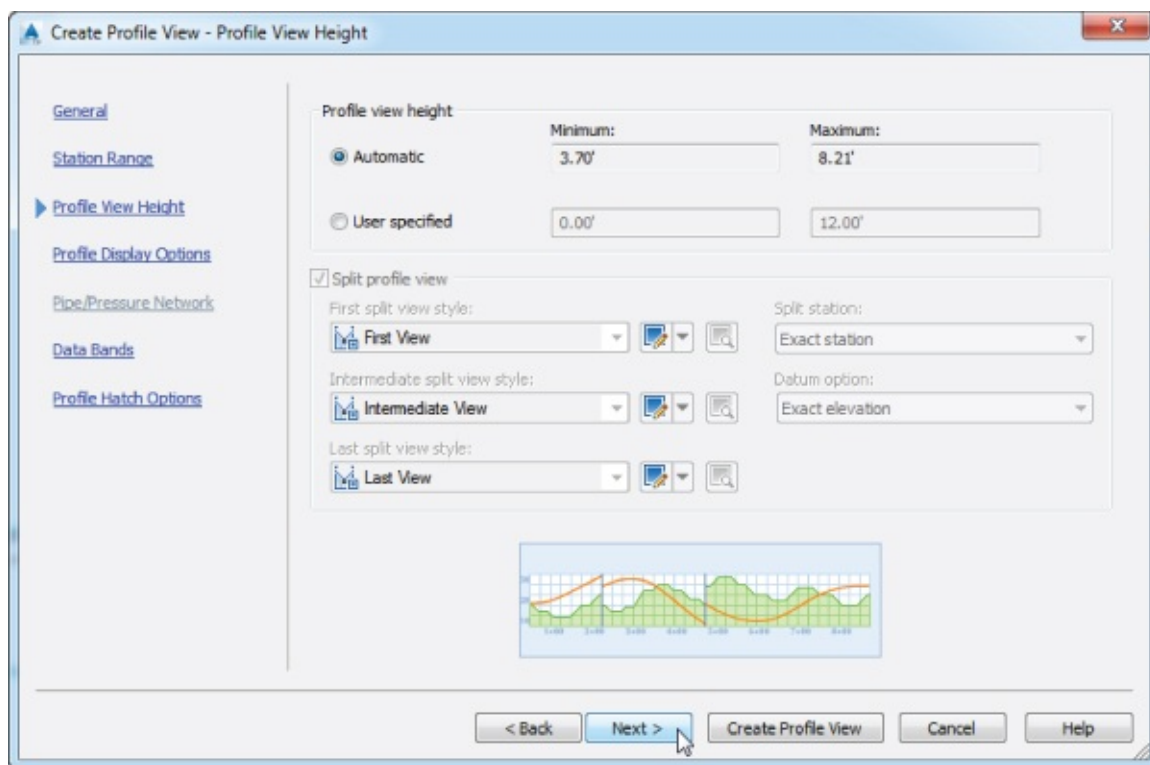

Figure 7.7 The Create Profile View – Profile View Height wizard page
15. On the Create Profile View – Profile View Height wizard page, verify that the Automatic option has been selected (Figure 7.7). Click Next.